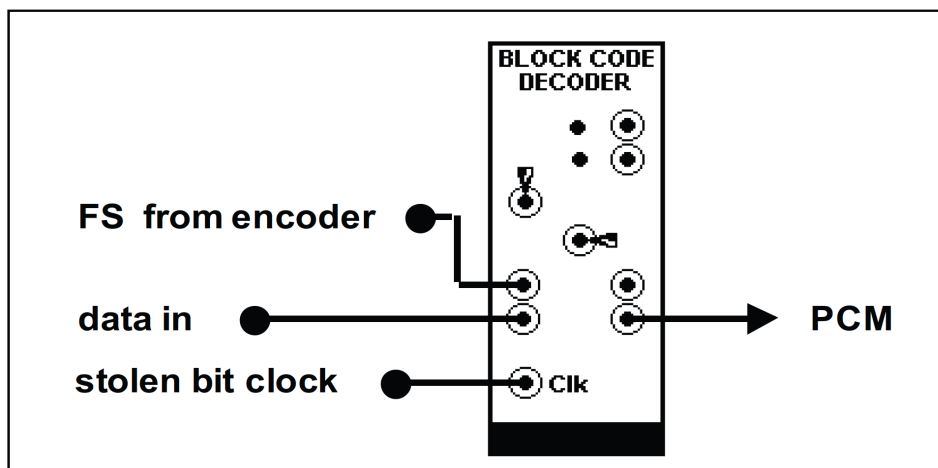

Figure 4.4: The bolck code decoding
10. patch up the BLOCK CODE DECODER according to Fig. 4.4 with using the "stolen" FS from the transmitter